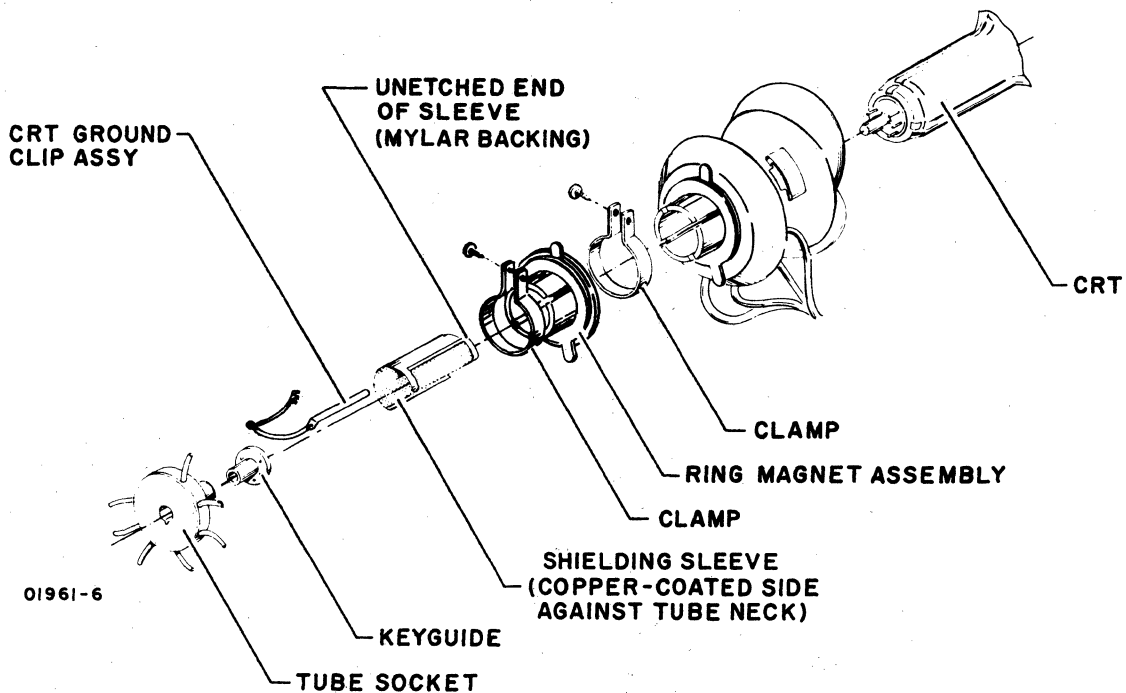

Figure CRT23. Yoke Assembly
- 8) Loosen clamp which holds yoke in place with screwdriver (figure CRT23).
- 11) Position yoke over sleeve with wires downward (figure CRT23). The red and green wires should be on the left and the yellow and blue on the right as viewed from rear of crt.